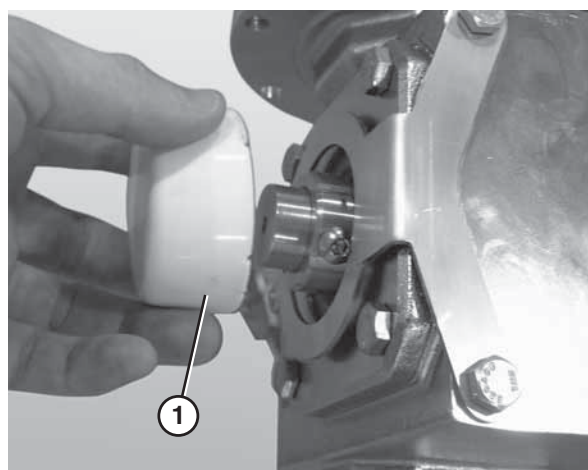

Figure 25
6. Attach the gearmotor cover (**Figure 25, item 1**).